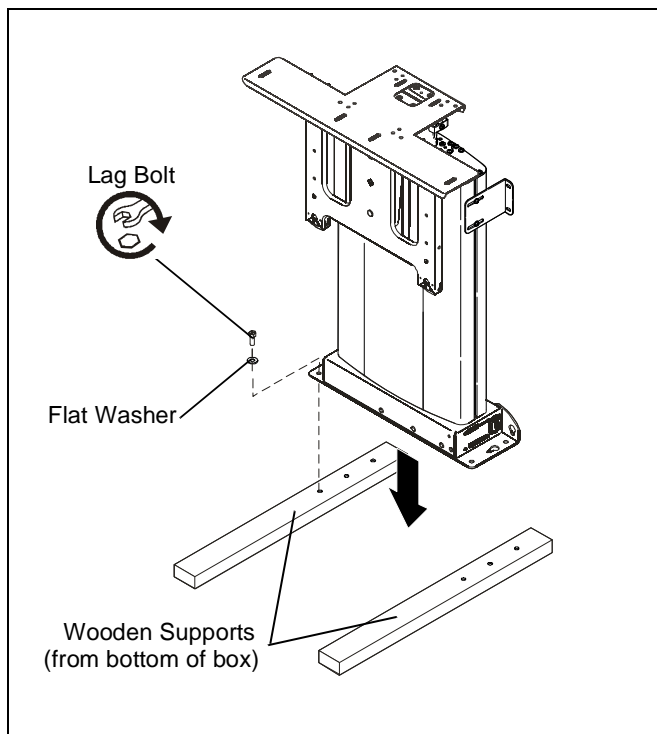

Figure 1
3. Lay two wooden supports on floor and mount CM2C40C40 to supports using four 5/16" flat washers and four 5/16" x 2 1/2" lag bolts (hardware provided). (See figure 1)